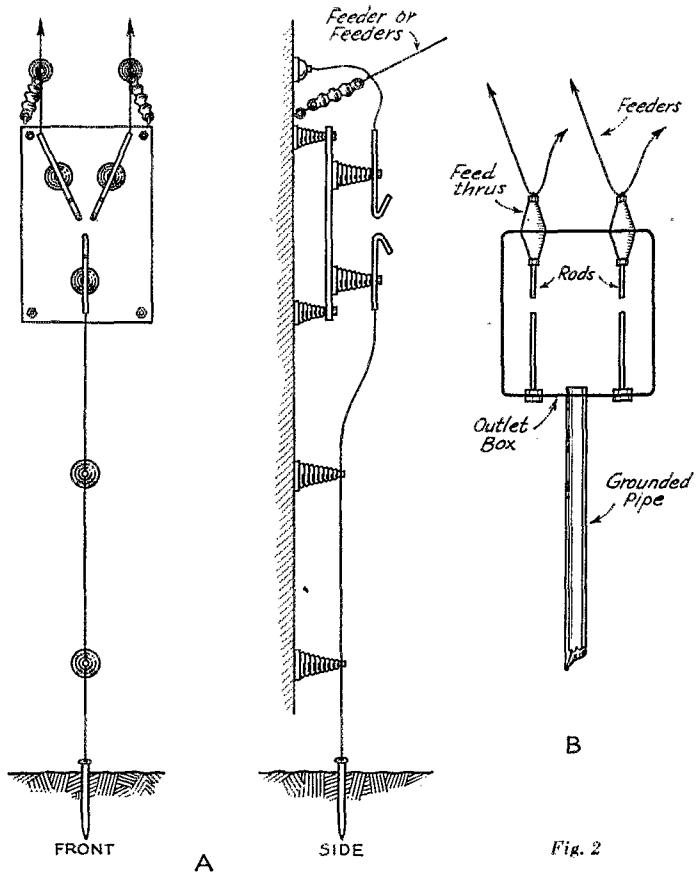

Fig. 2
*Fig. 2* — How the square is used to measure heights of condenser shafts above the surface of the chassis. If a combination square is used, the end of the scale should be set flush with the face of the head.